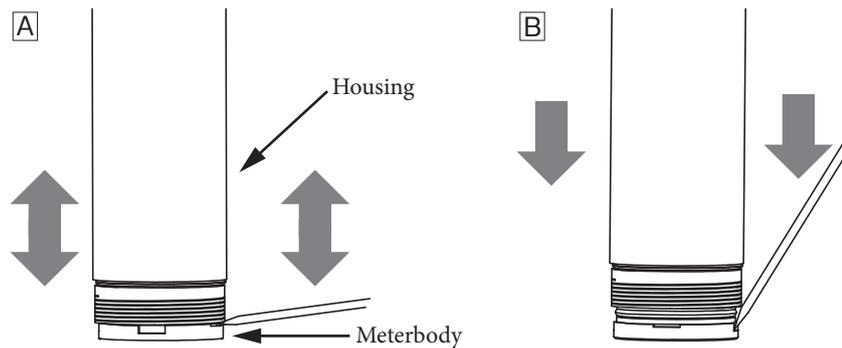

Fig. 9-6. Removing the meterbody
- (2) As shown in Fig. 9-6[A], put a screwdriver in a groove (a groove with small vertical depth) and pry to slightly pull the meterbody out from the housing. (There are four grooves in total, two grooves with large vertical depth and two grooves with small vertical depth.) If the removal process is difficult, insert the blade of the screwdriver into another groove (one with a large vertical depth) and push out the body as shown in Fig. 9-6[B]. Prying or pushing in grooves that are facing each other simultaneously or alternately will apply force evenly to ensure easy removal.